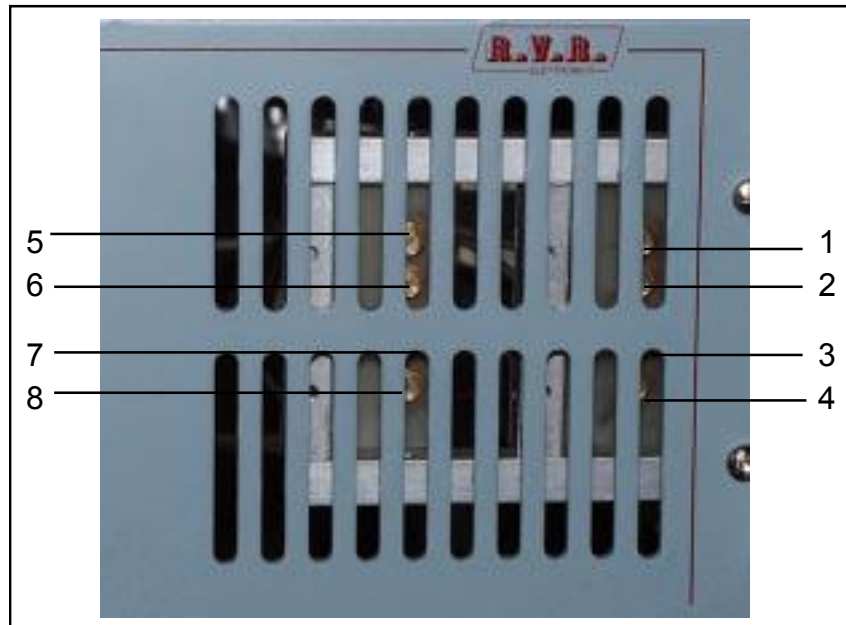

Figure 5
- It is not necessary to remove the coupler covers: the trimmers are accessed directly through the ventilation slots of the device (figure 5)